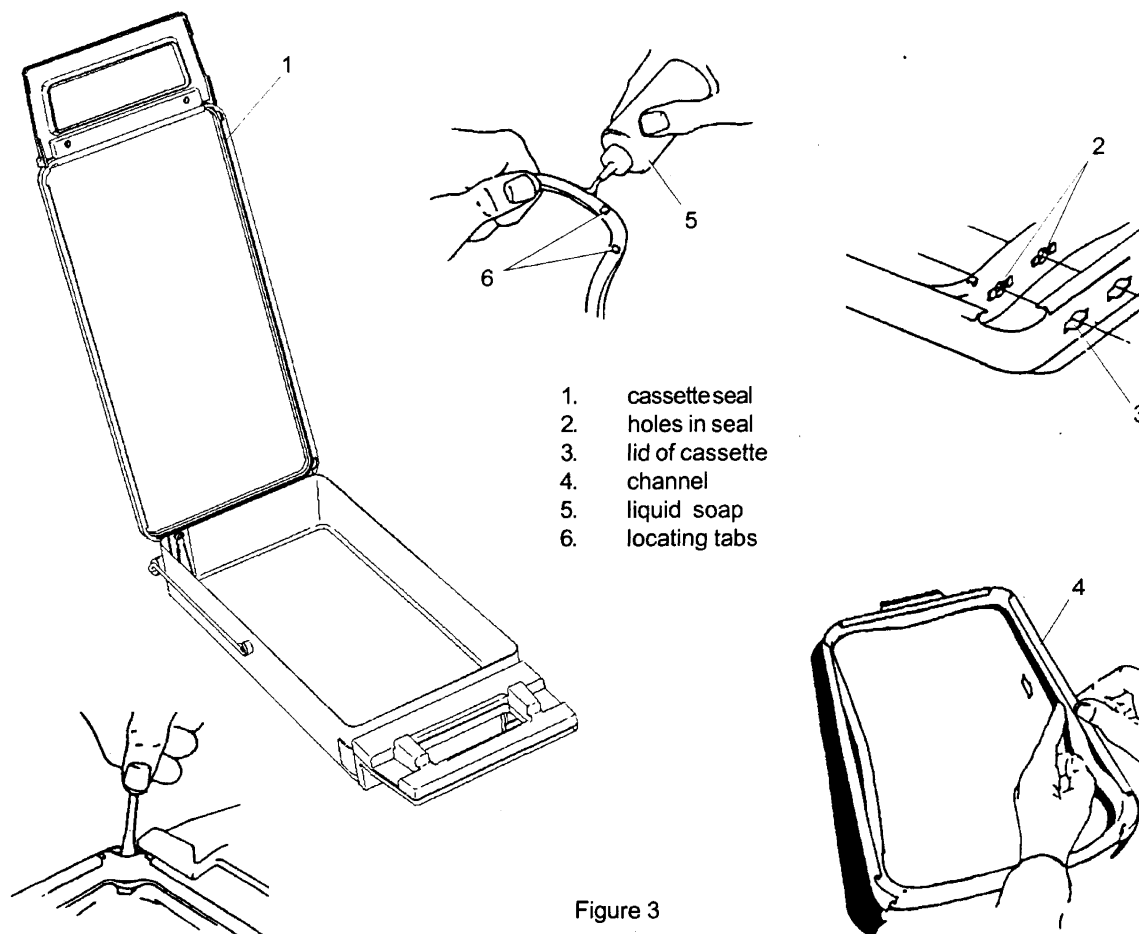

Figure 3
Change the cassette seal (SciCan Part # 01-101649S) every 500 cycles or six months (whichever comes first) to insure optimum performance. To change the cassette seal (1) follow these steps (See Figure 3):
4. Lubricate the new seal with the liquid soap (5) provided.
5. Align the holes in the new seal (2) with the holes in the lid (3).
6. Insert the rounded edge of the seal into the channel (4) of the lid starting at the corners and gently push the seal into the channel. In each corner of the top surface of the seal, there are two small locating tabs (6). Both tabs are visible in each of the corner notches in lid channel when the seal is properly installed.